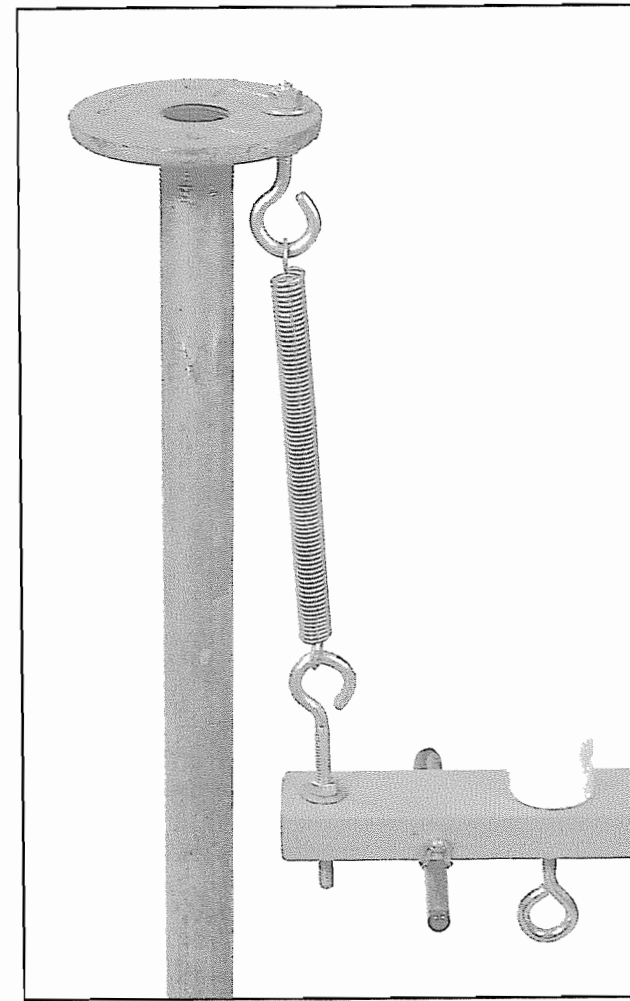

Figure 18-10. The spring is connected to the thrust arm and the spring support with two eye bolts.
6. Select the appropriate spring, and connect it to the thrust arm and the spring support with the two eye bolts (Figure 18-10). Use the nuts and the washers on the eye bolts to adjust the position of the thrust arm until the arm is level. Eye bolts are manufactured with their end loops tightly closed. Before you can use them, you'll have to clamp them in a vise, and pry them open just a bit.